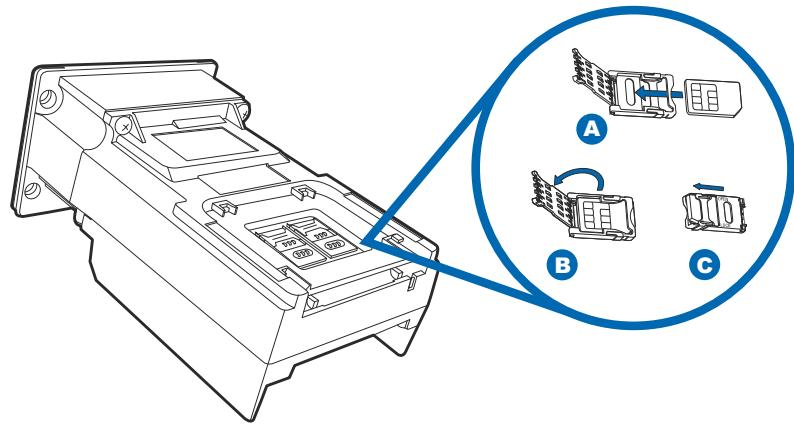

Figure 7 Installing SAM Card
- **SAM** card slots, see Figure 7
Before inserting the SAM card, position it as shown in Figure 7, with the card's gold contacts facing outward, toward the unit. The cardholder connector base has a set of contacts and a notch to ensure the SAM card is positioned correctly. The SAM card has a notch on one corner to ensure that it fits into the connector base in only one way.